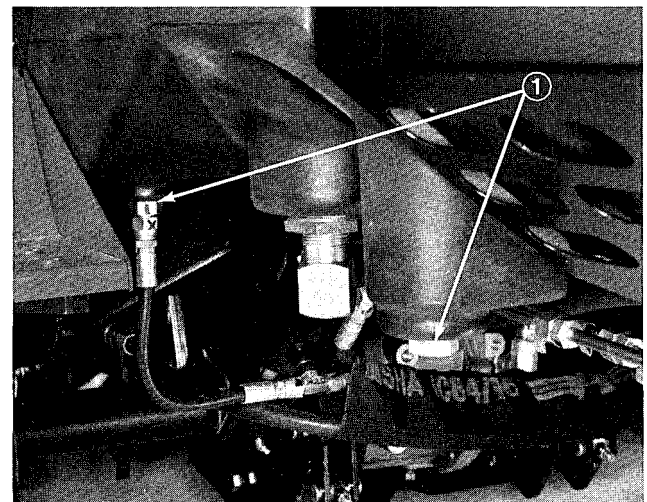

Figure 41
CHANGING HYDRAULIC OIL (Fig. 41 & 42)
2. Remove drain plug from rear of reservoir and hydraulic line from front of reservoir (Fig. 41) and let hydraulic oil flow into drain pan. Reinstall and tighten plug and line when hydraulic oil stops draining.